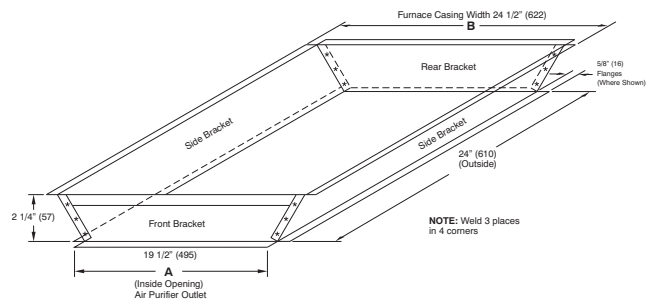

Fig. 8 - Recommended Transition
- Prepare transition, following recommended transition drawing (see Fig. 8). Fabricate a 2 1/4-in (57 mm) tall (minimum) transition.